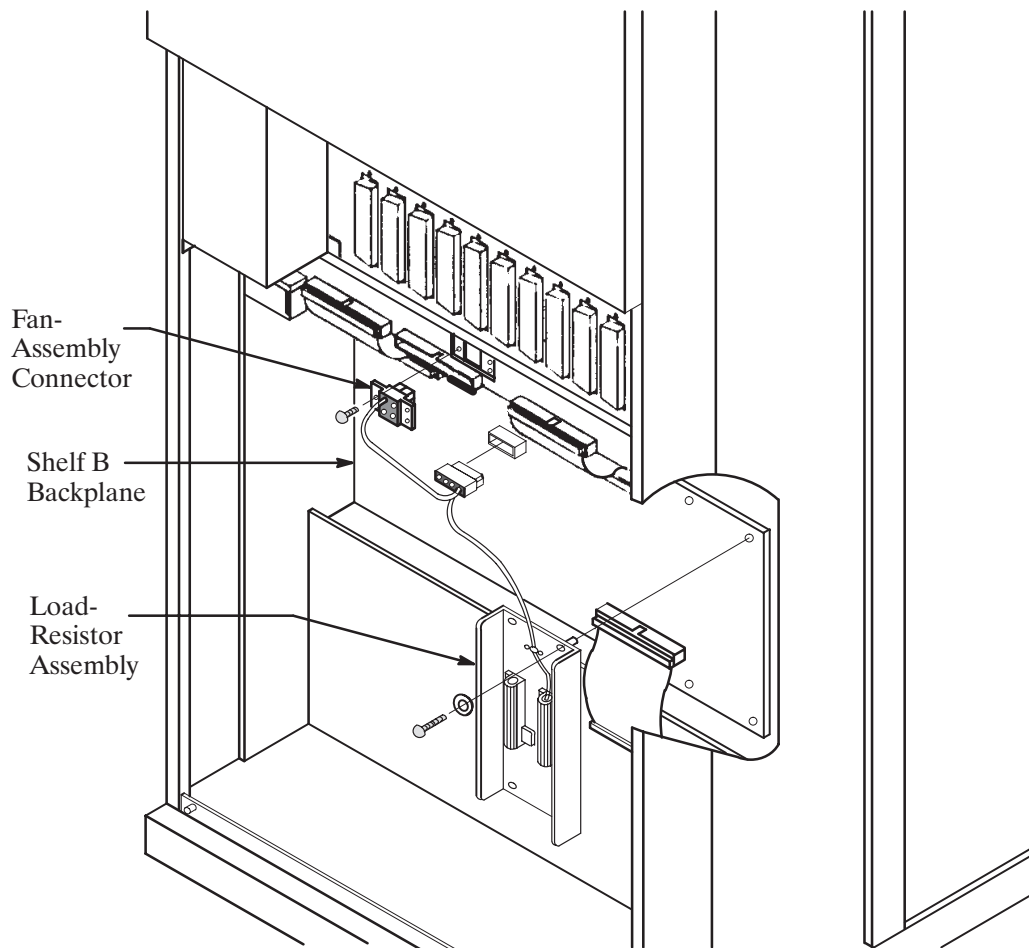

Figure 9-28 Cutaway View of the Load-Resistor Assembly
9. If the shelf B disk-drive backplane is being removed, and the message server is equipped with a load-resistor assembly, remove the four screws and washers that secure the load-resistor assembly to the message server. Refer to Figure 9-28 to verify whether a load-resistor assembly is present.
2. If the shelf B backplane is being installed in a message server with a load-resistor assembly, secure the load-resistor assembly to the cabinet with four screws and washers, as shown in Figure 9-28 . Do not tighten the screws.
7. Locate the load-resistor assembly on the shelf B backplane (refer to Figure 9-28). Note that the harness attached to the load-resistor assembly is also attached to the shelf B disk-drive backplane and to the fan assembly.
3. Secure the load-resistor assembly sheet metal to the chassis with the four screws and washers, as shown in Figure 9-28.